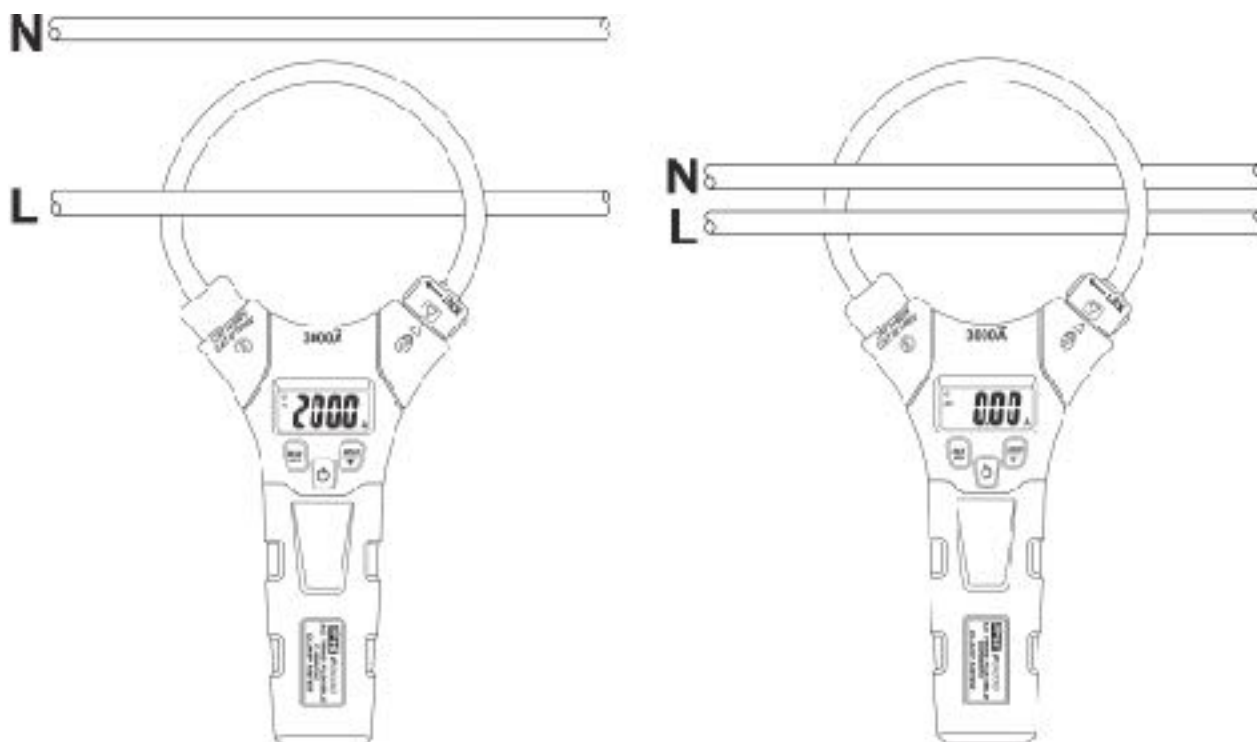

Fig. 3: Use of the instrument for AC current measurement
2. Open the jaws and insert the phase cable in the middle of it (see Fig. 3). The display shows the value of current.